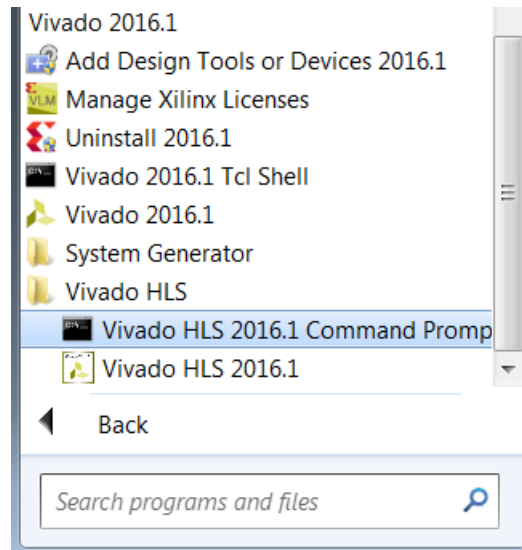

Figure 4-1: Vivado HLS Command Prompt
- On Windows use **Start > All Programs > Xilinx Design Tools > Vivado 2016.1 > Vivado HLS > Vivado HLS 2016.1 Command Prompt** (Figure 4-1).